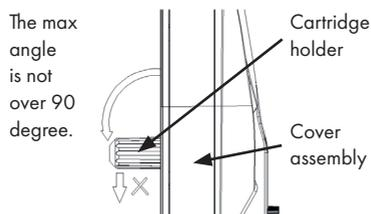
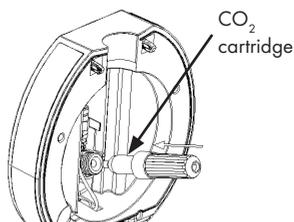
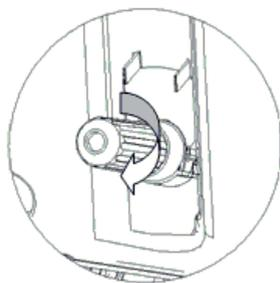

Figure 10
Figure 11
Figure 12
4. Make sure that the pressure regulator on the lid is in the "-" position. Rotate the cartridge holder outwardly from the upper cover assembly by an appropriate angle, not exceeding a maximum angle of 90 degrees (see figure 10). Then unscrew the cylinder sleeve and install a CO2 cartridge (with 3 CO2 cartridge attached) into the gas bottle (see figure 11), and then carefully tighten the cartridge quickly (clockwise tight, counterclockwise is loose) (figure 12), until you hear a "click" sound, indicating that the cartridge seal has been pierced and the CO2 gas can flow into the keg freely. The pressure relief regulator assembly is then rotated upwards and snapped into the upper lid assembly. If the cartridge is replaced, follow the reverse procedure (make sure the gas is used up when changing the gas bottle).